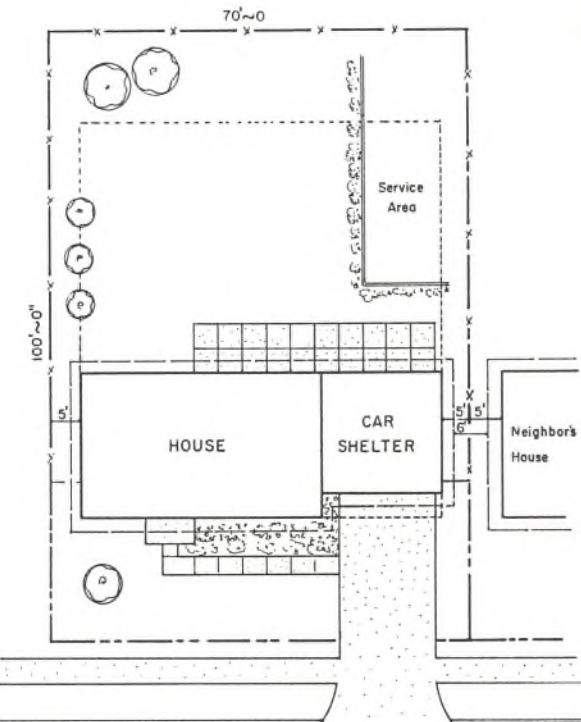

Fig. 18.2 Layout showing standard house / lot arrangement providing maximum yard space.
The size and shape of the house will, to some extent, be determined by the size, shape, and contour of the lot. The illustrations and accompanying information in Figs. 18.2 through 5 will help you to determine the maximum buildable lot space on the building site you are working with. Consider space required for the width of the roof overhang. Local planning commissions establish minimum front, rear, and side yard setbacks. The size of the house you are designing must fit within those boundaries. Refer to UNIT 25, Plot Plans, for more information.
Drawing a floor plan that seems to have suitable space arrangements for individual requirements is just one phase of home planning. A truly well-planned home is only achieved when overall planning of house and lot result in the maximum use of every square foot of lot space. The use of outdoor living space should be given equal consideration with that of indoor living space. (See Figs. 18.2 through 5.)
You may feel restricted in drawing your plan because of lot limitations. However, a little experimentation will show that there are a number of ways in which the house can be placed on the lot. After you experiment by drawing the layout in several ways on the lot, the most desirable one will become evident. Figures 18.2 through 18.5 show examples of the same house and car shelters placed on a lot in four different ways.
When both the house you are designing and the neighbor's house have roof overhangs, the minimum distance between the two outer edges is 6'. (See Fig. 18.2.)
1. Study the plot-plan example layouts in Figs.18.2 through 18.5. They will give you some idea of the many different effects that can be achieved by carefully planning the house and garage to fit the lot.